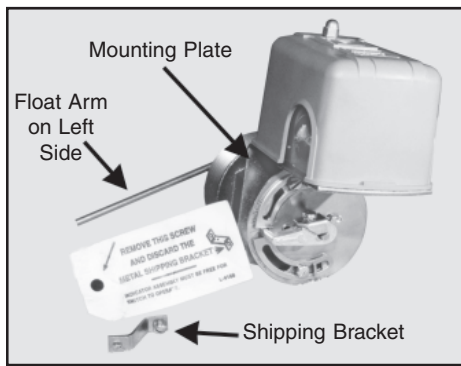

FIGURE 3—Float Switch
- Remove shipping brackets on all the external float switches. Per instructions on tag attached to float switch, remove shipping bracket (See Figure 3) from each float switch as per manufacturer's instructions. The float switches have been factory set for maximum capacity of the receiver. Should an alternate setting be required, refer to the float switch manufacturer's instructions. If needed, reference Technical Articles section on the SHIPCO® website (www.shipcopumps.com) for detailed instructions on how to adjust a float switch (*Adjusting a Nema 1 Square-D, 9037 Series Float Switch*).